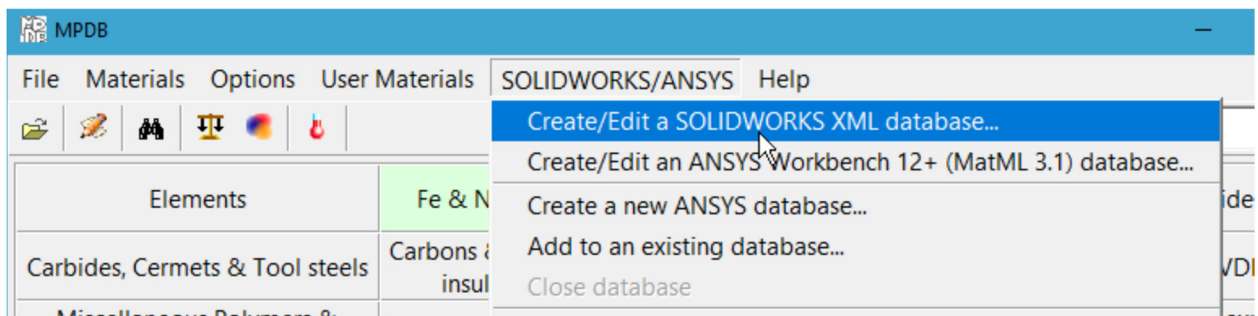

Figure 6.
- II. Click the “SOLIDWORKS /ANSYS->Create/Edit a new SOLIDWORKS XML database” menu item (Figure 6.)